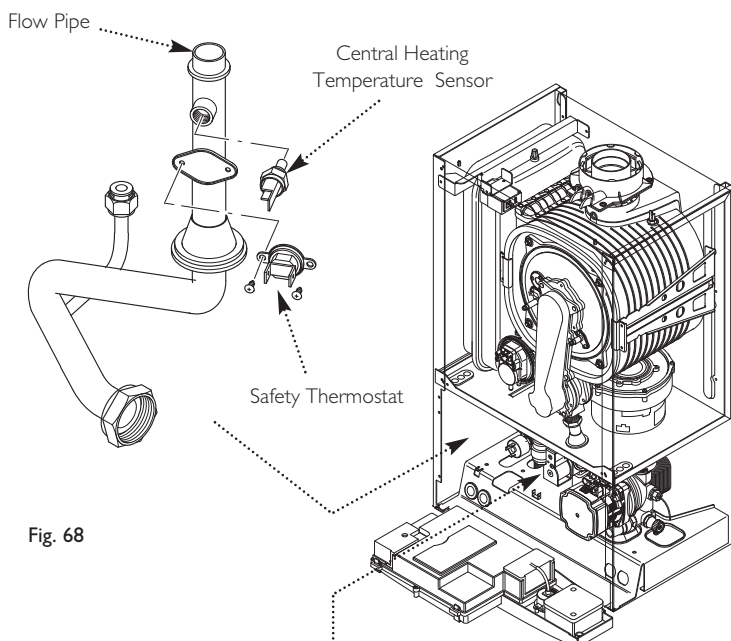

Fig. 68
13.11 Central Heating Temperature Sensor (NTC) (Fig. 68)